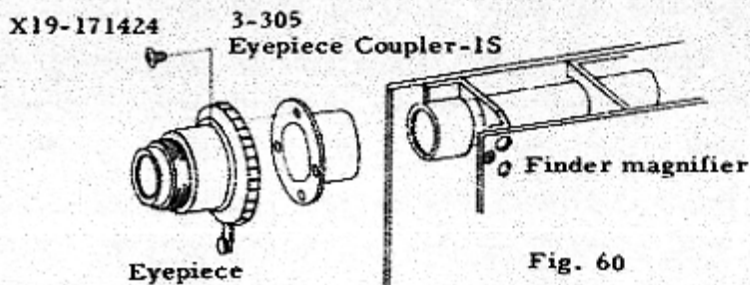

Fig. 60
- 2) With Eyepiece Coupler-1S, 3-305, connect eyepiece and finder magnifier. See Fig. 60.